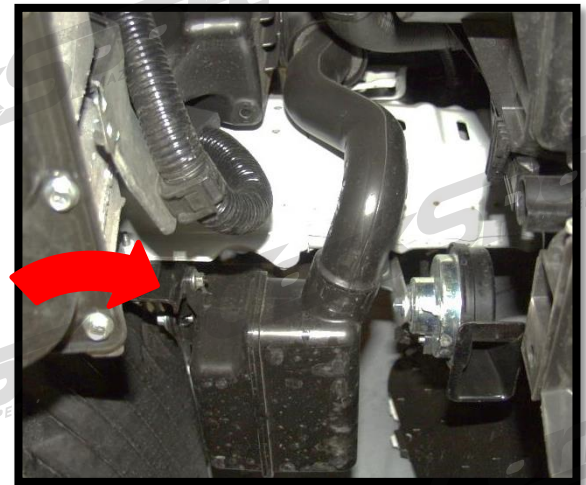

Figure 2a
- a) Locate the lower part of the drivers side frame rail. This is where you will mount the oil catch can (Figure 2a).